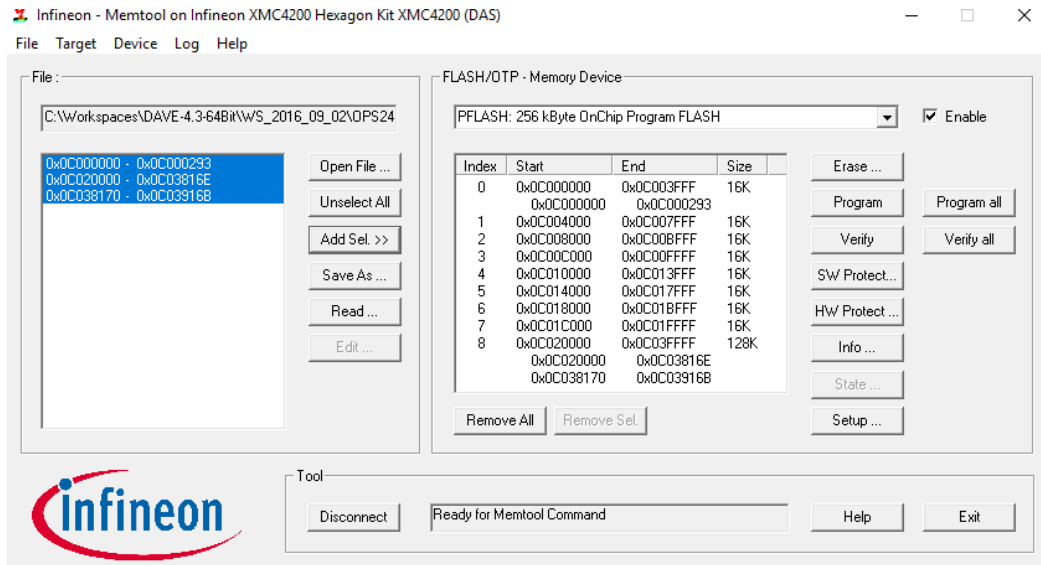

Figure 8. Files Ready to Program
Step 6. Pressing Add Sel>> will add the files to the window on the right side. The Program all button on the far right will now be available to press (Figure 8).